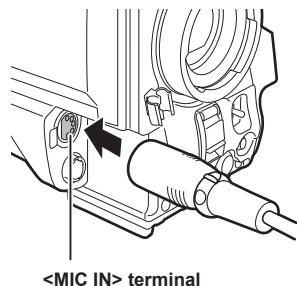

Fig. 3
- 3 Connect the connection cable of the microphone to the <MIC IN> terminal on the camera. (Fig. 3)